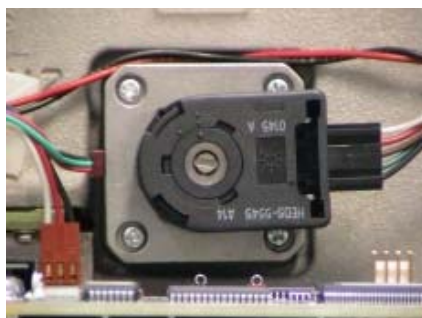

Figure 29 - Filter Position Adjuster
- * CCW will move the filter into the beam. See Figure 29.